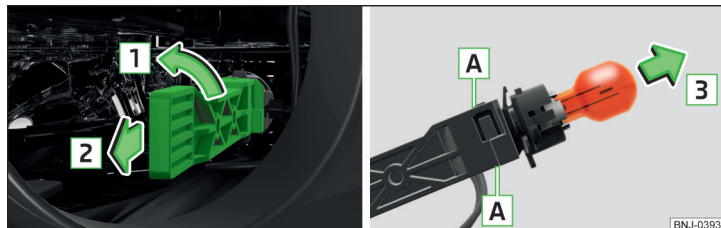

Fig. 289 Changing the bulb for the front turn signal light
- Turn the holder with the bulb in the direction of the arrow 1 » Fig. 289.